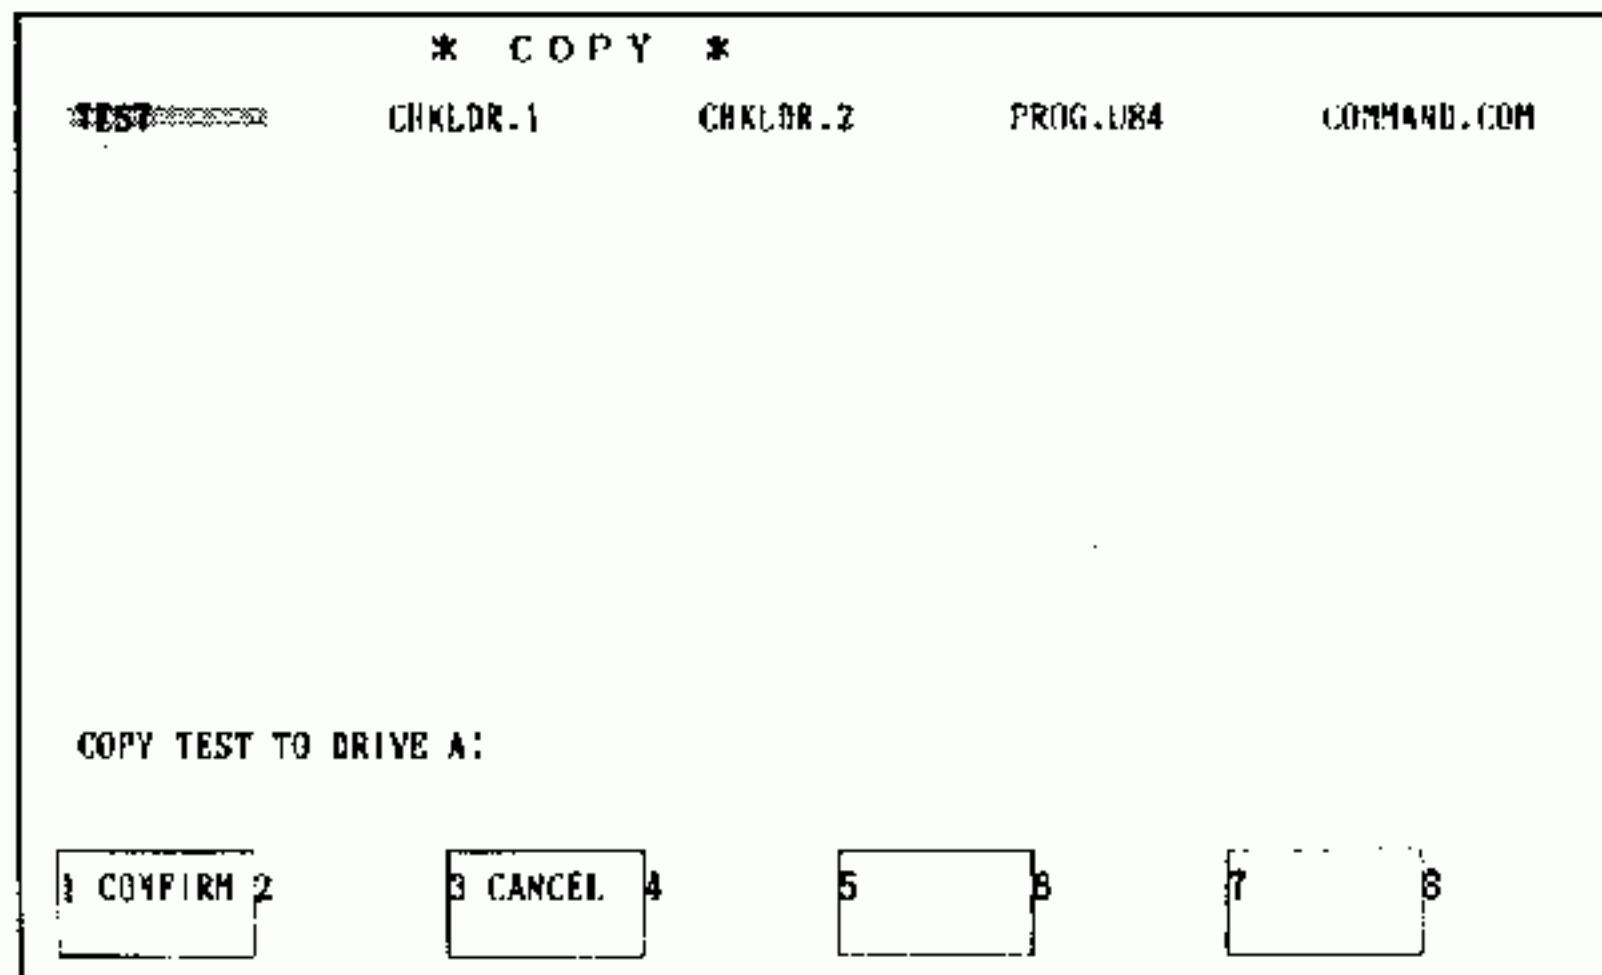

Fig. 5.2.158
2. Depressing "CANCEL" key (Fig. 5.2.158) returns to the display shown in Fig. 5.2.156.